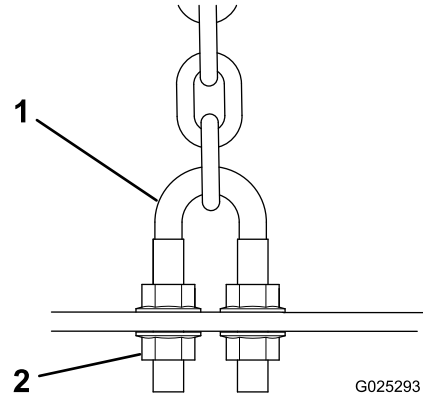

Figure 16
1. Remove the nuts securing the lift chain U-bolts to the underside of the deck (Figure 16).
3. Install the U-bolts to the deck with the nuts previously removed (Figure 16).